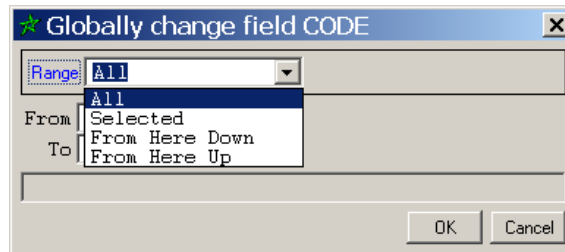
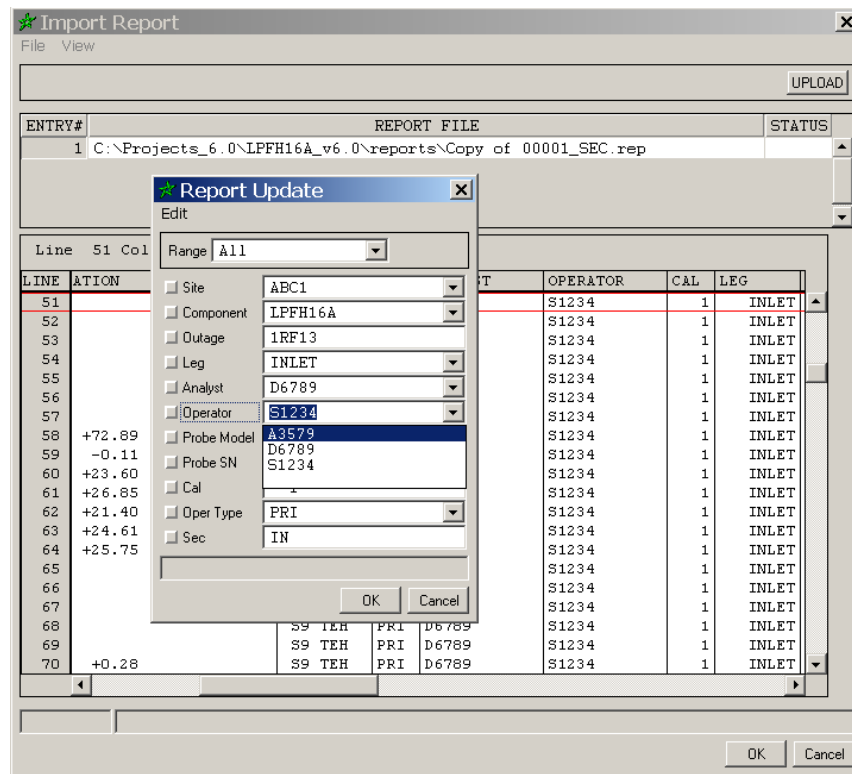
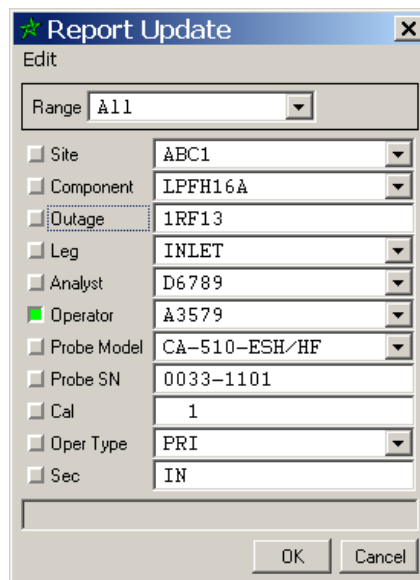

Figure 34. Database | Upload Reports | Import Report Dialog | Global Change Dialog | Selecting a Range
Figure 37. Database | Upload Reports | Import Report Dialog | Changing a Field Using the Report Update Dialog-1
Figure 38. Database | Upload Reports | Import Report Dialog | Changing a Field Using the Report Update Dialog-2
Before we click **OK** to make the global change, we need to select a range of report entries in which this change will occur. Click the **Range** dropdown list shown in Figure 34 to display the available choices. In our example, we want to change all the *ODW* calls in the **CODE** column to *ODD* calls. So, we would select the default of **All** in the **Range** field.
**TIP:** The **Range** dropdown list shown in Figure 34 is the same for both the **Global Change** or **Report Update** dialogs.
Using the **Report Update** dialog is easy. Any field or combination of the fields listed can be modified. For example, say you need to change the **Operator** field in the report. When the **Report Update** dialog first opens, all the boxes on the left are gray (*not depressed and green*) as shown in Figure 37. Once you make a selection, the box next to that field will turn green and appear depressed. In Figure 38, A3579 has been selected as the new **Operator**. No other changes have been made in our example, so the indicators to the left of the remaining fields stay gray and appear raised. The **Range** dropdown list works the same as previously discussed (*Figure 34*). We chose **From Here Down** to demonstrate the change.